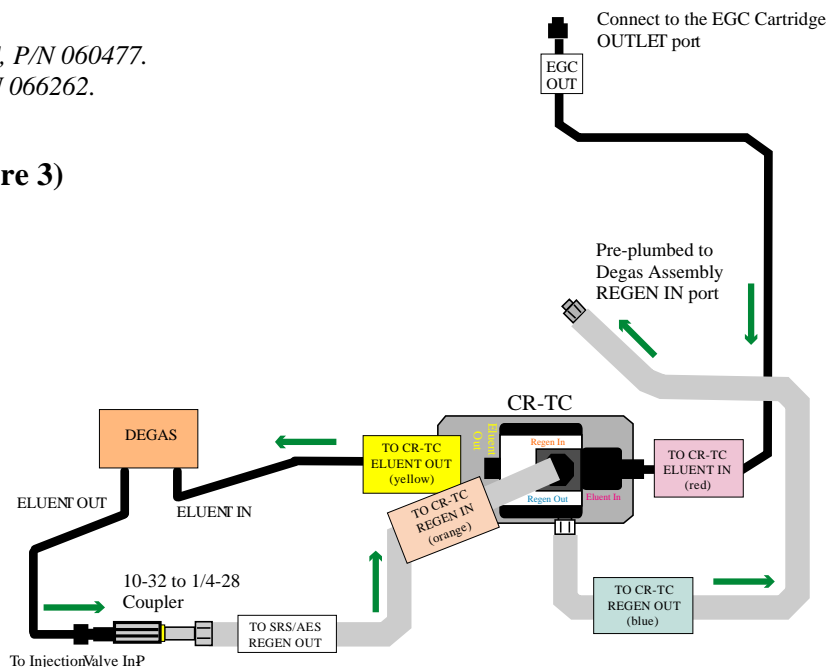

Figure 3
2.1. Installation before Hydration (Figure 3)
2.2. Hydration (Figure 3)